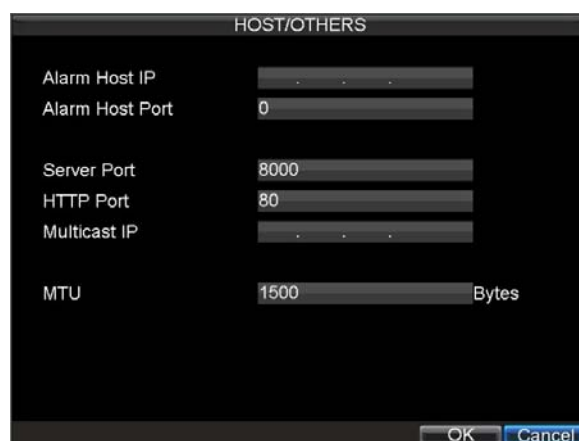

Figure 11. Host/Others Menu
4. Enter new **MTU** for this device, as shown in Figure 11.